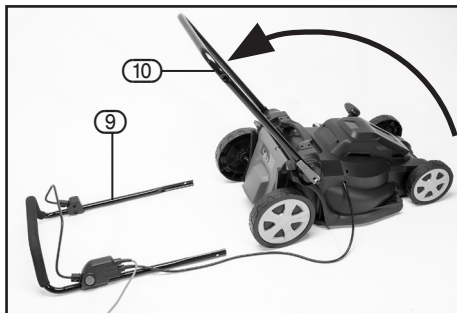

FIG.1
8.1 UNFOLD AND LOWER HANDLE – FIG.1